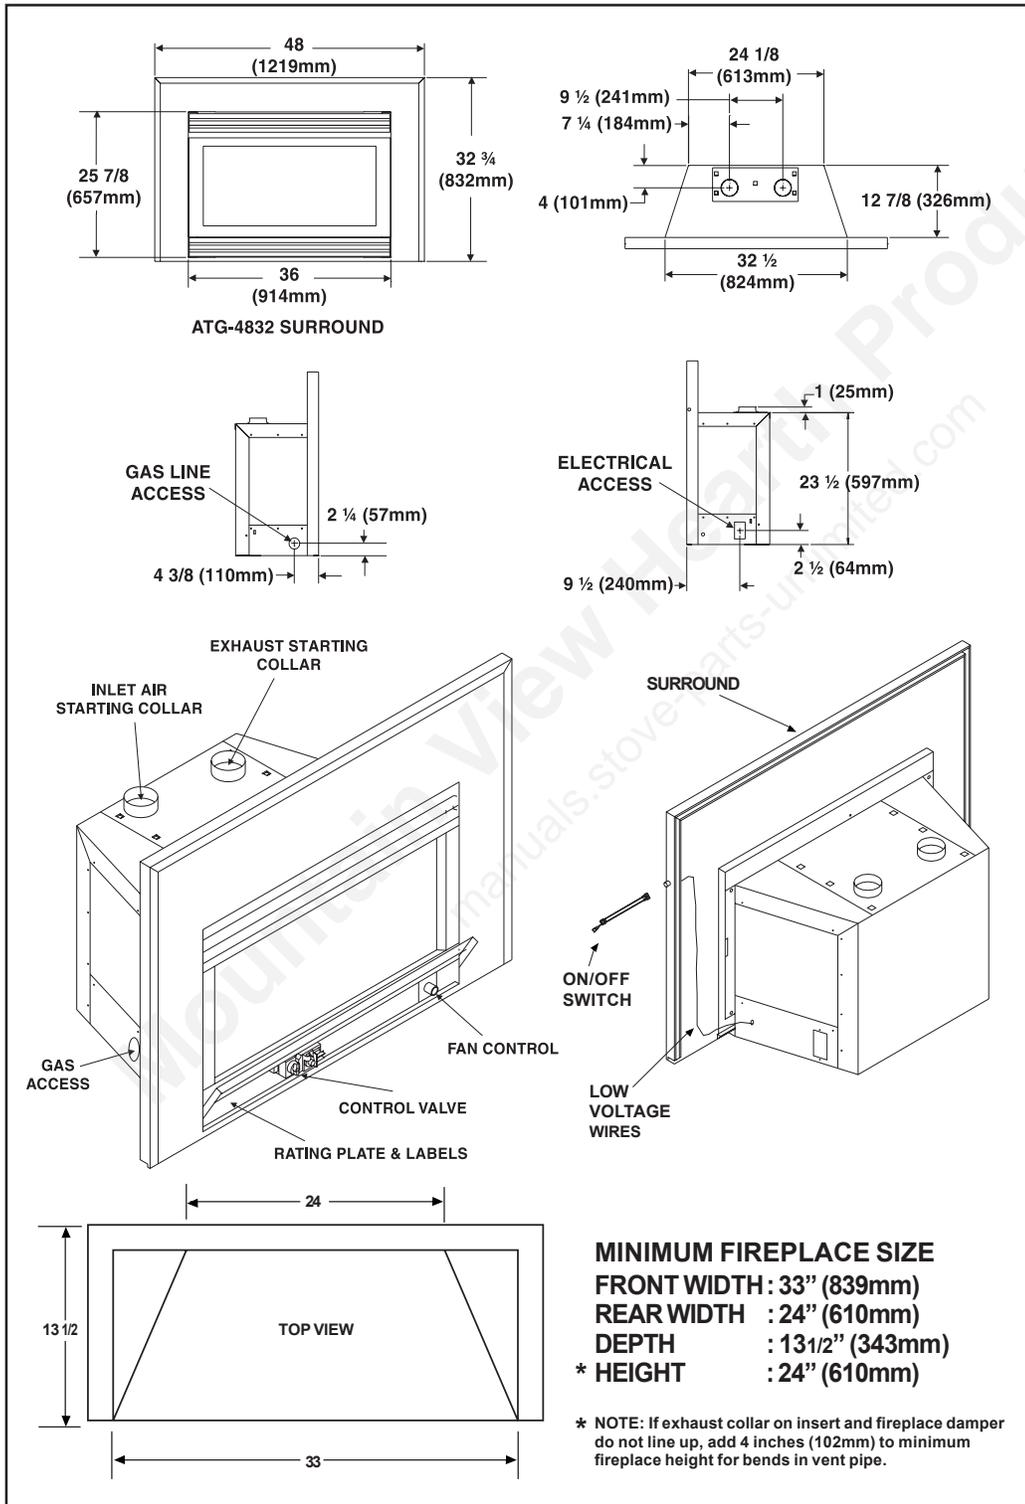

Figure 1. Diagram of the AT-GRAND
2. Minimum fireplace opening requirements are shown in Figure 1 of this installation manual. The firebrick (refractory) can be removed from a factory built fireplace in order to gain minimum gas insert opening requirements.